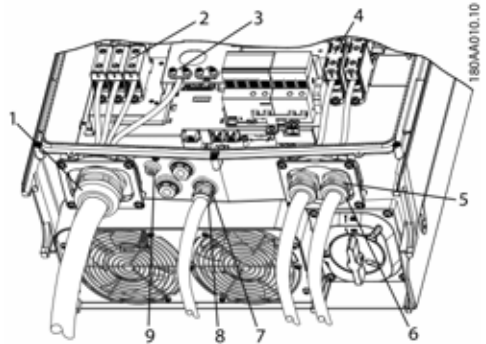

Figure 3.12 Overview of the inverter with torque specifications
If the blind plugs are removed (see (7) in figure 3.12), use the following types: 3, 3S, 4, 4X, 6, 6P.